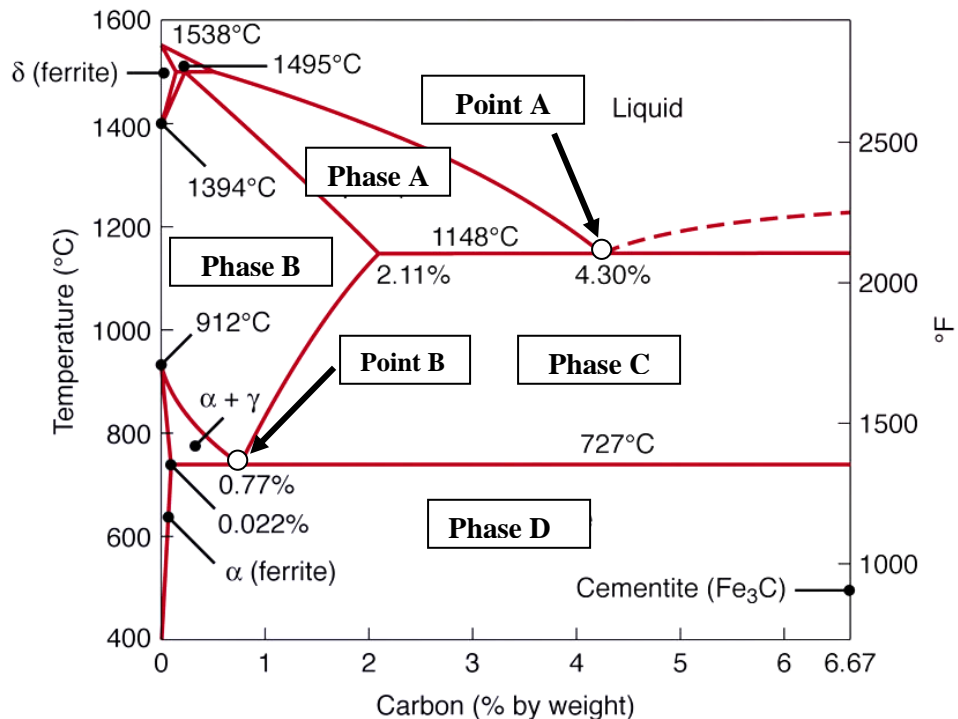

Figure Q2[b]
- [b] Figure Q2[b] shows the phase diagram for Fe-C (Iron-Carbon).**